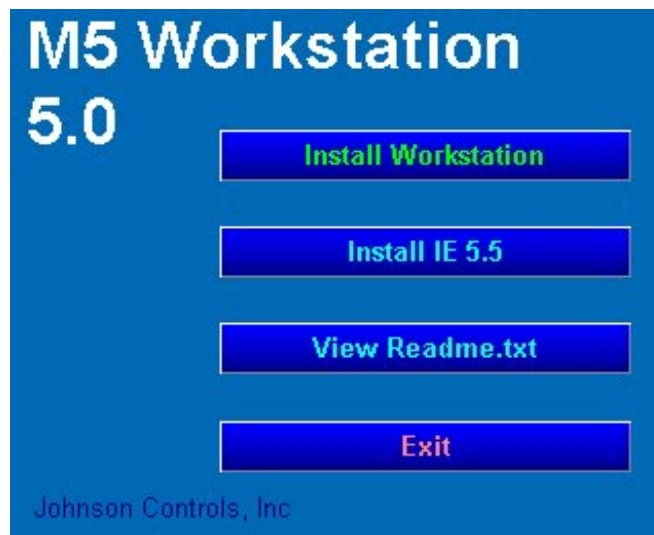

Figure 1: Initial Install Dialog Box
2. Insert the M5 Workstation CD into the CD-ROM drive. If Autorun is disabled, open Windows Explorer to start the installation procedure. (Double-click setup.exe on the CD-ROM.) The initial Install dialog box appears (Figure 1).
2. Insert the M5 Workstation CD into the CD-ROM drive. If Autorun is disabled, open Windows Explorer to start the installation procedure. (Double-click setup.exe on the CD-ROM.) The Initial Install dialog box appears (Figure 1).
1. Insert the M5 Workstation Release 5.x CD into the CD-ROM drive. From the Initial Install dialog box (Figure 1), select Install Workstation.